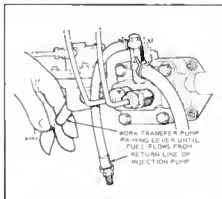

FIGURE 3-44 BLEEDING FUEL SYSTEM
2. Operate hand priming lever on diaphragm type fuel transfer pump until there are no air bubbles in fuel flowing from the fuel return line, Figure 3-44.